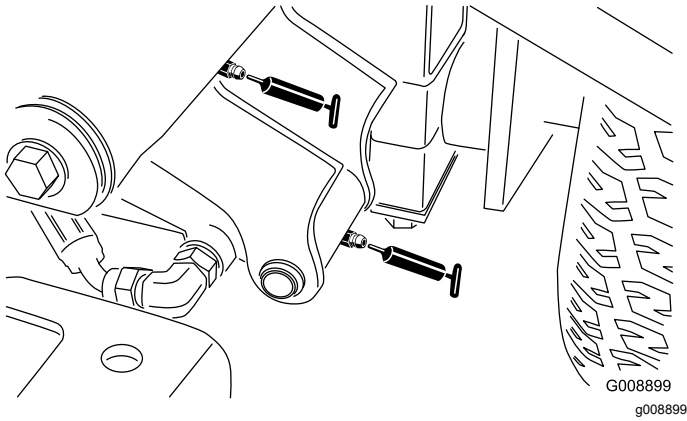

Figure 42
- Left front lift arm pivot and lift cylinder (2) (Figure 42)